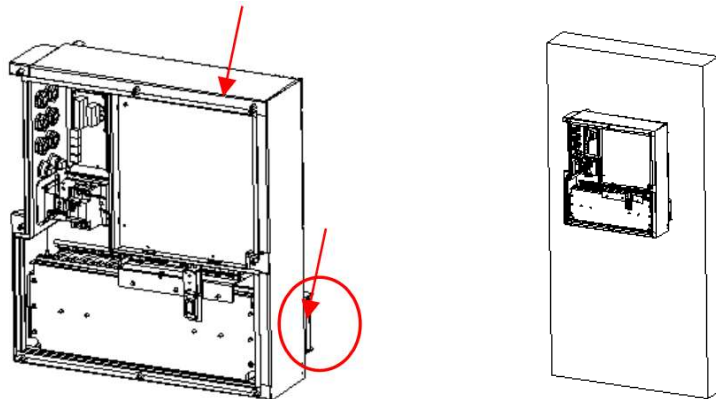

Figure 2.9 Casing Fixation
Step 4: install the casing of Storion-SMILE-B3 (hold the two arrow positions of B3 and install the B3 box to the stand), as shown in Figure 2.9.